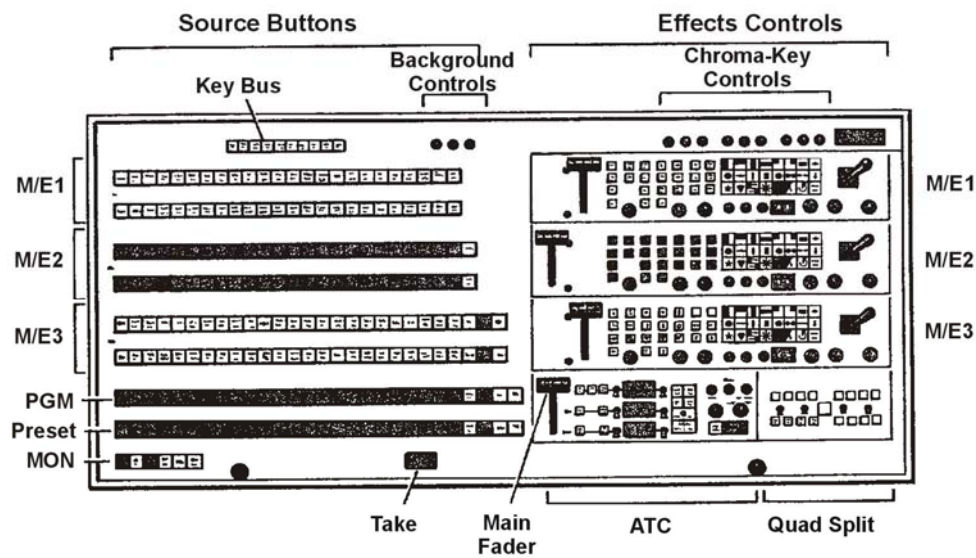

Figure G-1. Control Panel for a Video Production Switching System
a. As the technical director of an audiovisual production, you may be required to use one or many mixed effects of a switcher. Following are some mix/effects (M/E) you might find on today's switcher. (See Figure G-1.) They are two-level keying for simultaneous chroma keying with a luminance key, soft or border wipe with positioner and modulation, and key bordering shadow or outline. Along with the conventional effects patterns, you may find rotary wipes, hearts, stars, binoculars, and many more. Keep in mind that some units have more and others have less. The M/E system may permit dissolves or wipes to and from one or two keys, preset wipe patterns, and many combinations of dissolves, wipe, and key functions. Larger units may incorporate each key to have a two to four input selector and a chroma keyer that has a four-camera red, green, and blue input switcher. Each M/E unit is equivalent to a keyer into a wipe/mix unit, yielding the following operation:
- (1) Mix.
- (2) Soft wipe.
- (3) Vari-key.
- (4) Two-title key inserts.
- (5) Chroma key plus title key.
- (6) Wipe to or from one key or two keys.
- (7) Wipe to or from a mask key.
- (8) Wipe to or from a preset wipe pattern.
- (9) Key edging, shadow, and outline on all keys.
- (10) Wipe.